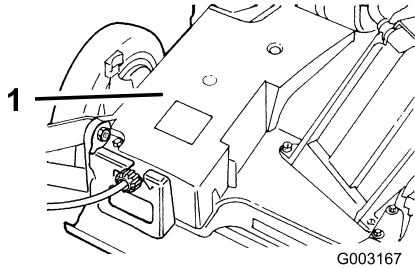

Figure 42
2. Remove the bolts that secure the belt cover (Figure 42) to the machine housing.